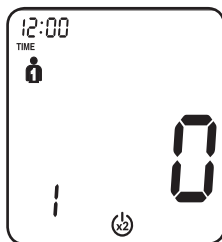

FIGURE 6A: 1st AFIB measurement
- b) The lower, left section of the screen shows a 1 or 2 to indicate which of the measurements is currently being taken. See Figures 6A and 6B.